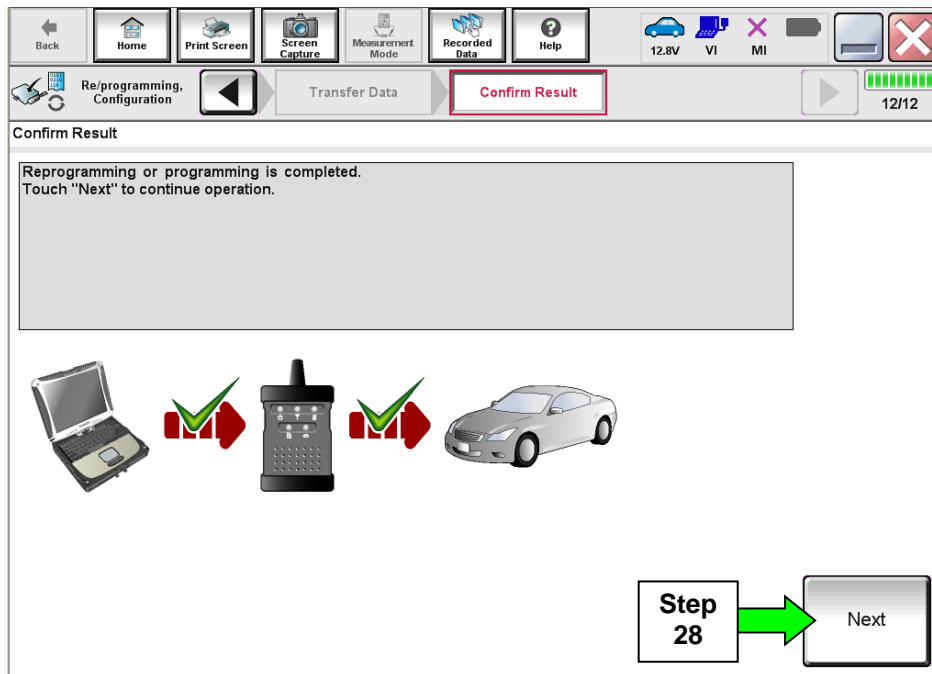

Figure 18A
26. When the screen in Figure 18A displays, reprogramming is complete.
NOTE: If the screen in Figure 18A does not display (indicating that reprogramming did not complete), refer to ECM recovery on the next page.